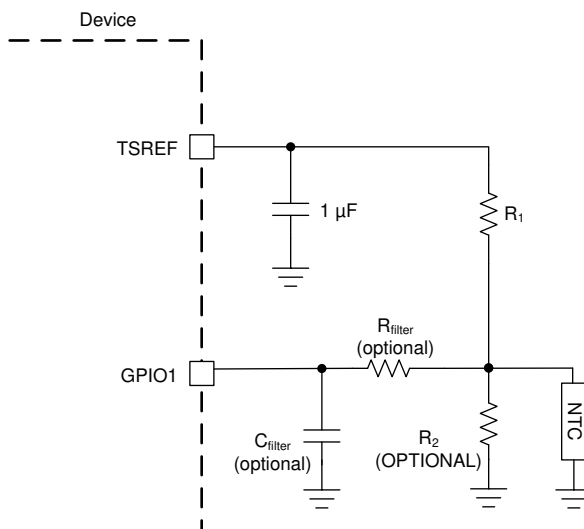

图 8-6. Thermistor Connection
Figure 8-6 shows the thermistor circuit when GPIO is enabled for thermistor measurements. MCU ensures TSREF is enabled by setting $CONTROL2[TSREF_EN] = 1$ and settled before taking the measurement value.
- $R1$ is the pull-up resistor as shown in Figure 8-6 with the assumption the $R2$ is not used